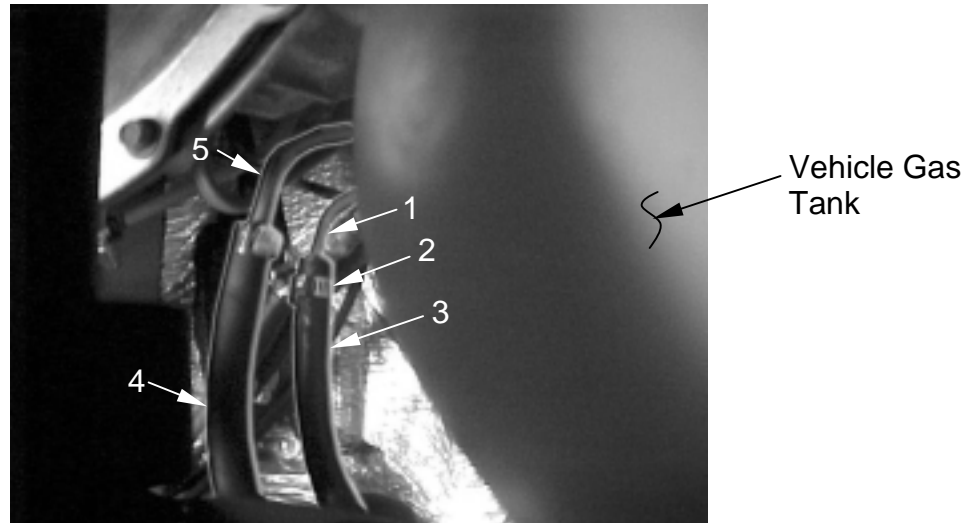

Figure 4-10. Attach Vehicle Fuel Lines
(1) Underneath the vehicle wedge the vehicle fuel tank (see Figure 4-10) away from the bed of the vehicle with the small width of a hammer or similar blunt object. Do not use sharp objects or excess force.
(2) Remove passenger wheel well panels and dislodge plastic plugs in the bed of the vehicle, then dislodge insulation with screwdriver or some other blunt object. Insert fuel lines into the openings. Leave enough slack so the hoses may reach the fuel line connectors at the front of the shelter once it is mounted.